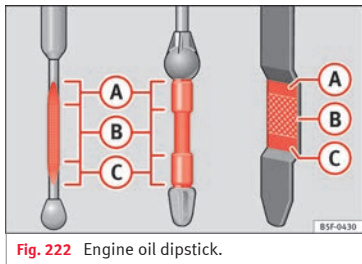

Fig. 222 Engine oil dipstick.
- Then pull it out once more and check the oil level »» Fig. 222. Top up with engine oil if necessary.